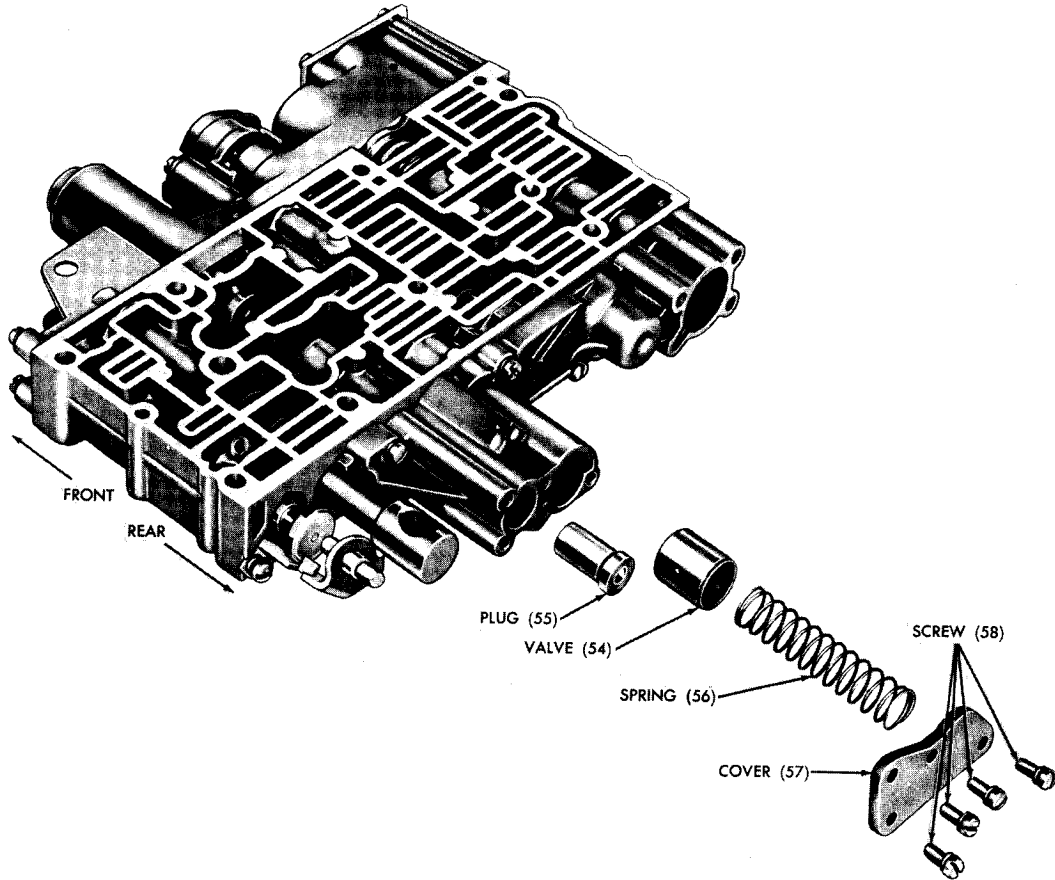

Fig. VIII-11 Lockup knockdown plug and accumulator valve — exploded view
(12) Lockup knockdown plug and accumulator valve (fig. VIII-11)